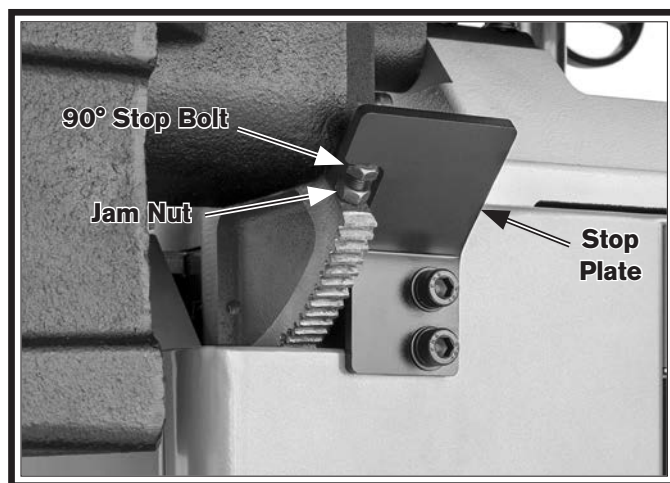

Figure 52. Location of 90° stop bolt and jam nut.
6. Loosen jam nut on 90° stop bolt shown in **Figure 52**, and adjust 90° stop bolt until platen is 90° to table when bolt contacts stop plate.